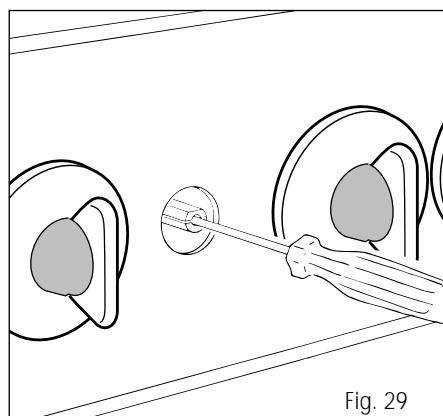

Fig. 29
- With a small flat screwdriver turn the screw inside the tap rod to the correct regulation (fig. 29).